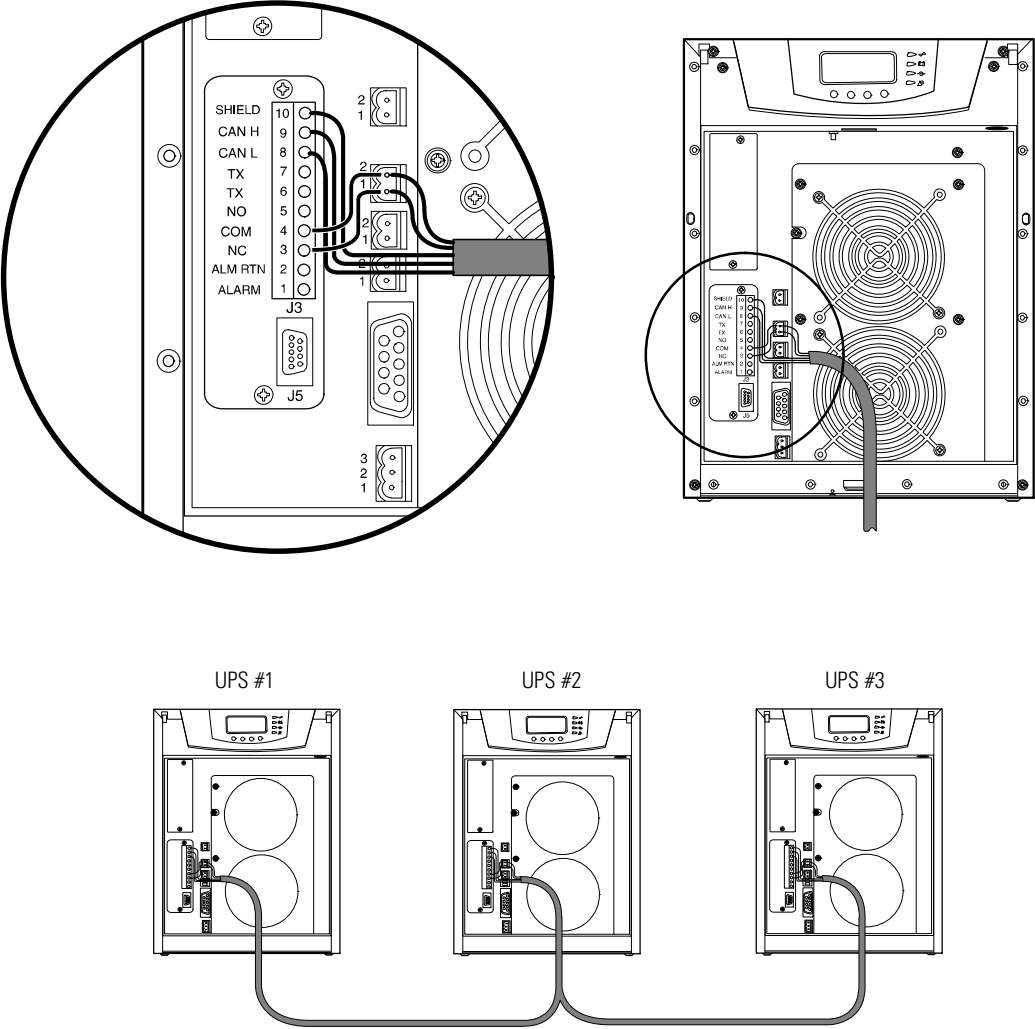

Figure 19. CAN Bridge Card Wiring
6. Install the CAN Bridge Card wiring between each UPS (see Figure 19). Be sure to check correct polarity for Pins 8 and 9:
7. Install the pull-chain wiring between the CAN Bridge Card and Signal Input 2 on each UPS and daisy chain the wiring to each UPS. Be sure to check correct polarity (see Figure 19):